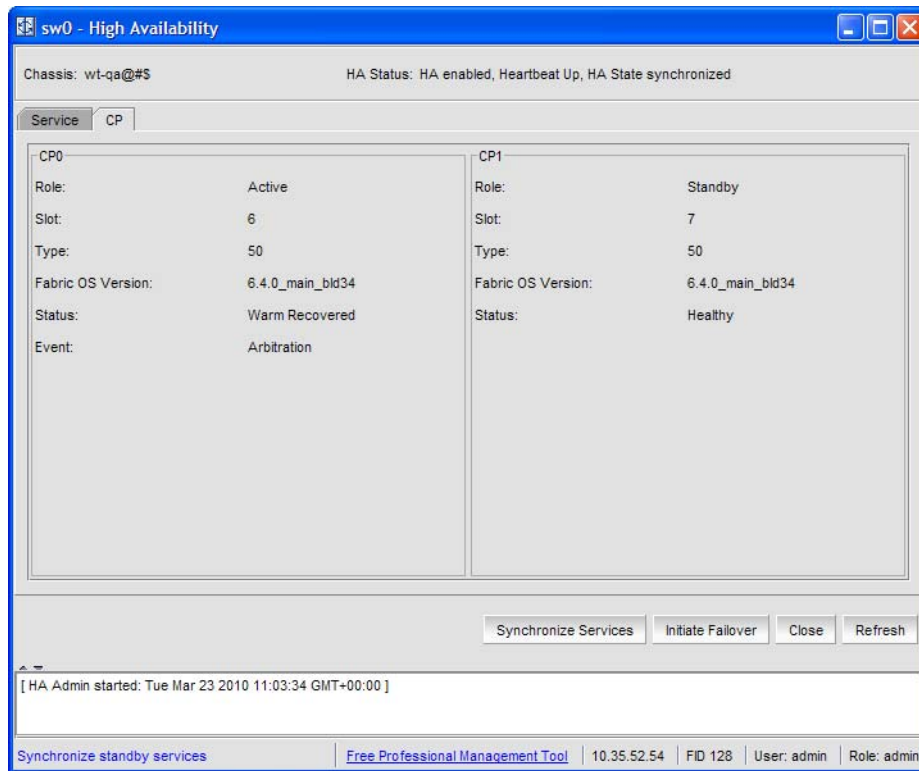

FIGURE 18 High Availability window, CP tab
The High Availability window, as shown in Figure 18, displays information about the status of the HA feature on each control processor (CP), and enables you to perform CP failover.